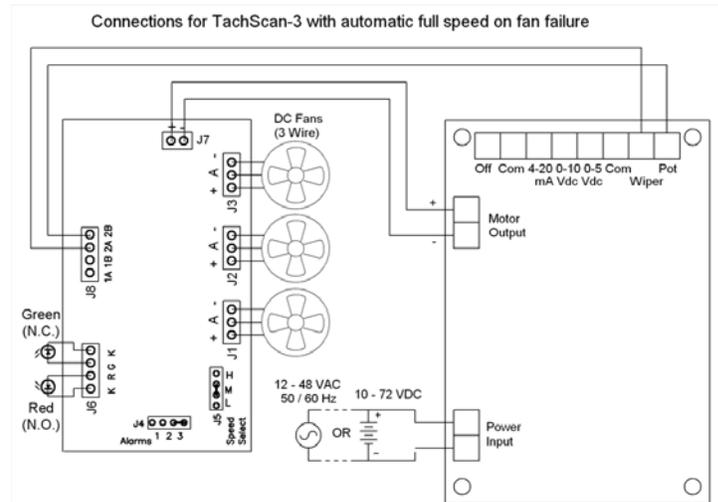

Figure 3: Connection diagram for interface of Tachscan-3 and Aurora.
**Connection to a TachScan-3 Fan Alarm:** In a fan control application a SmartFan TachScan-3 fan alarm can be used to monitor fan speed and provide an alarm if a fan drops below a set speed. In addition an automatic full speed signal from the TachScan-3 can be connected to the Aurora. An example of how the Aurora can be interfaced with the Tachscan-3 is shown in Figure 3. In this case, the normally open isolated alarm output (J8:2A, 2B) from the Tachscan-3 is connected to header TB5 on the Aurora. When the Tachscan-3 senses that the speed of one or more fans drops below the trigger speed, the output closes and the Aurora increases the speed of the fans to full. See the Tachscan-3 product pages for additional details. Similar configurations can be used with the Tachscan-9.